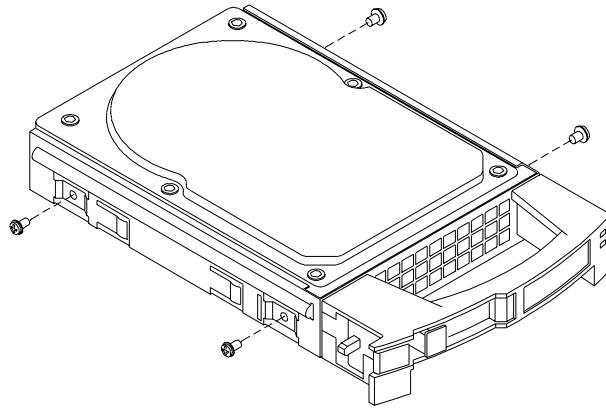

Figure 4-33. Mounting the Hard Drive into the Drive Carrier
7. Secure the drive in the drive carrier with the four screws supplied with the disk drive. See Figure 4-33.